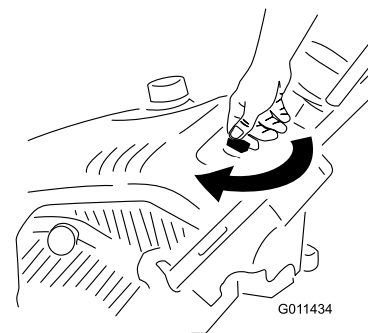

Figure 13
- Turn the ignition key clockwise to the On position (Figure 13).